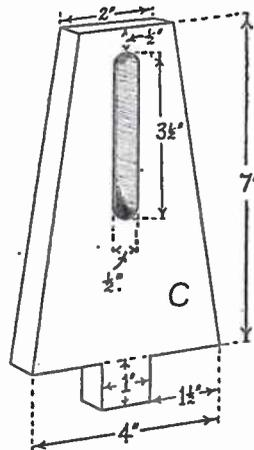

Fig. 3—The pillar (cut two)
The pillars (C) and sliding column (D) are also cut from ½ in. wood. The necessary measurements for these are given in Figs. 3 and 4. As laboratory fittings are liable to come in contact with water, balsa cement and not glue should be used for fixing the pillars to the base.